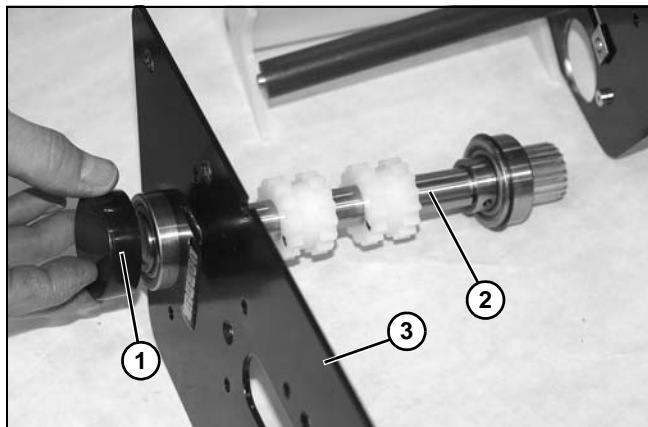

Figure 128
19. Remove cap (**Figure 128, item 1**) from driveshaft assembly (**Figure 128, item 2**).
20. Remove driveshaft assembly (**Figure 128, item 2**) from side plate (**Figure 128, item 3**).